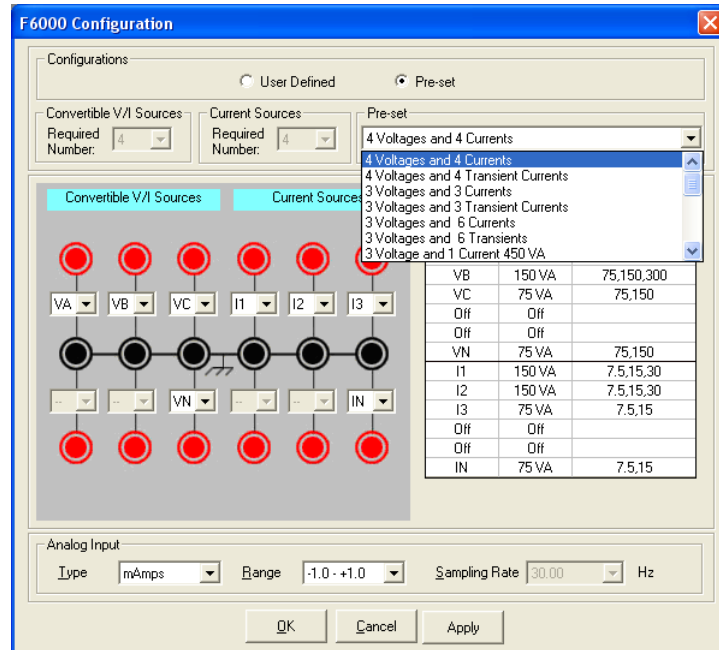

Figure 3.4 F6000 Configuration Window
1. Select *Tools > F6000 Configuration* and the *F6000 Configuration* window appears (Figure 3.4).